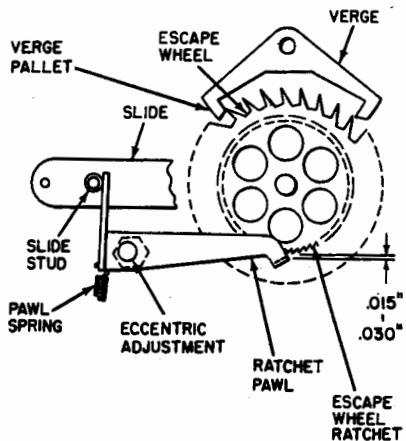

Figure 11. Escape Wheel Ratchet
3. The ratchet pawl spring, (Figure 11) should have enough tension to retain the ratchet in position if the correction cam is moved backwards for fast correction. The spring should also have enough tension to operate the ratchet pawl to the ratchet during the first portion of the correction slide operation. The pawl should stop the ratchet before the slide stud operates the correction cam.